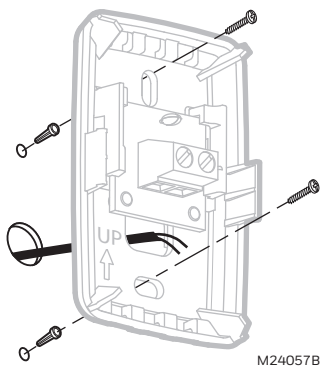

Fig. 69. Mount wallplate to wall.
5. Place wallplate over anchors, insert and tighten mounting screws see Fig. 69.